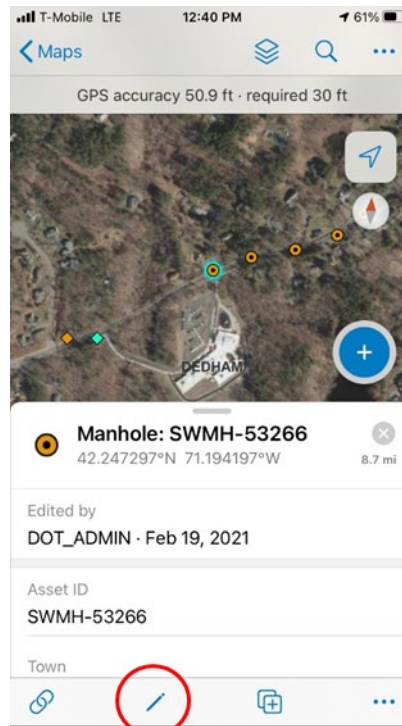

Figure 55
1. Use your finger to select the feature you would like to edit. The selected feature will be highlighted light blue. If multiple features are selected, a list will pop up. Click on the specific asset you would like to edit (Figure 55).
2. The attribute list of that feature will appear. Click on the Pen Icon to edit the attributes and the geometry (Figure 55, below). Press "Submit" once edits are complete.